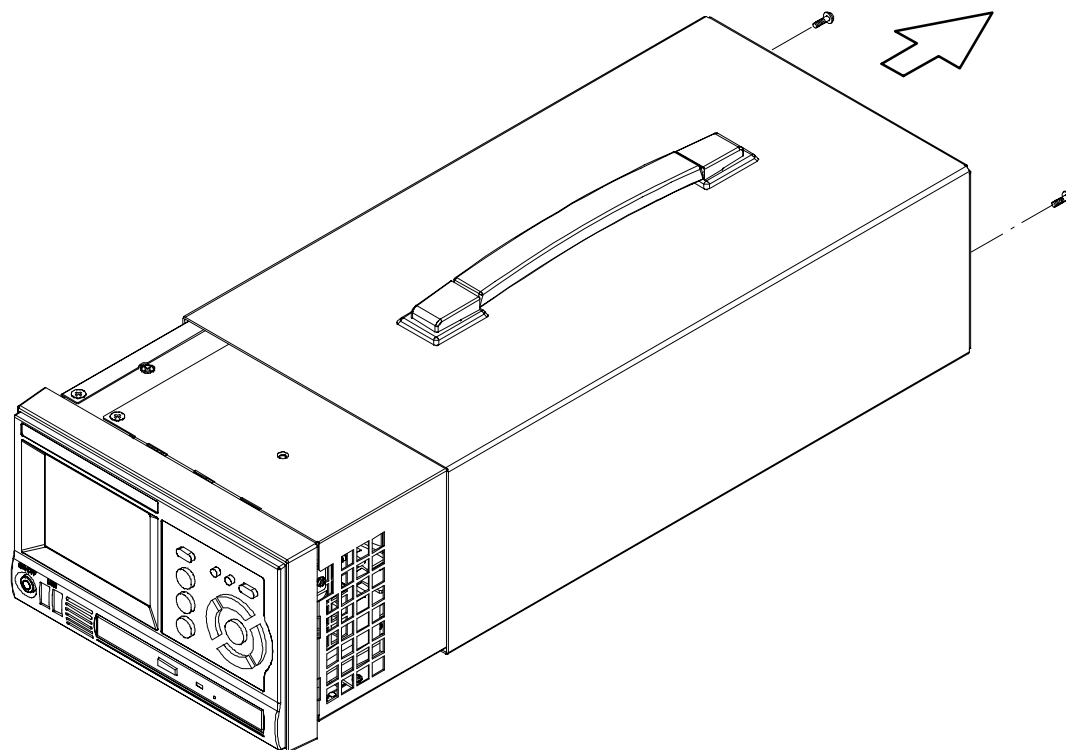

Figure 1: Removing the instrument cabinet
2. Use a screwdriver with a T-15 Torx tip to remove the two screws securing the cabinet to the instrument. See Figure 1 on page 4.
3. Slide the instrument forward to remove the instrument from the cabinet. See Figure 1 on page 4.